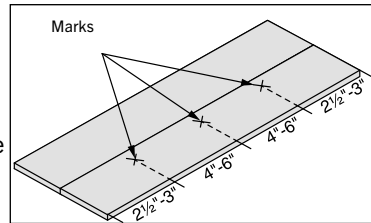

Fig 14. Biscuit location marks
1. Place edges of (2) workpieces flush against each other on a smooth, flat surface. Verify board ends line up.
2. Place marks  $2\frac{1}{2}$ " - 3" from each end of one board. **Note:** If distance between marks is greater than 6", place additional marks at 4"-6" intervals (see Figure 14).